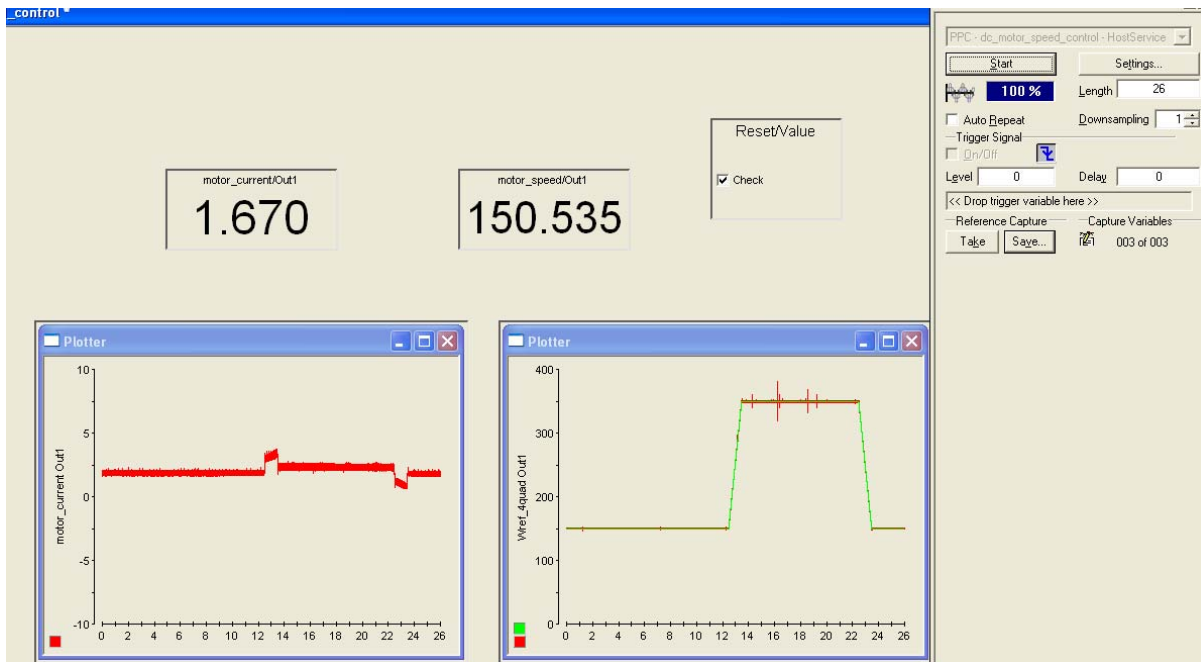

Figure 5.9: Control-desk interface for DC motor control for step from 150 rad/sec to 350 rad/sec
- Open the variable file (.sdf) and then open the layout file ‘**dc_motor_speed_control.lay**’ and add values as shown in Fig.5.9.